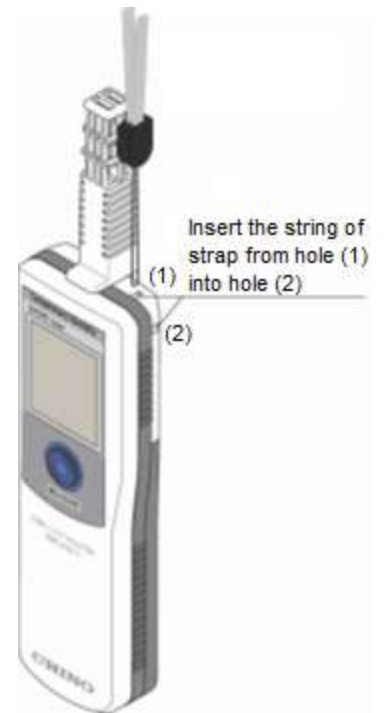

Figure 3
- Insert the string of neck strap from hole (1) into hole (2). (Refer to Figure 3)